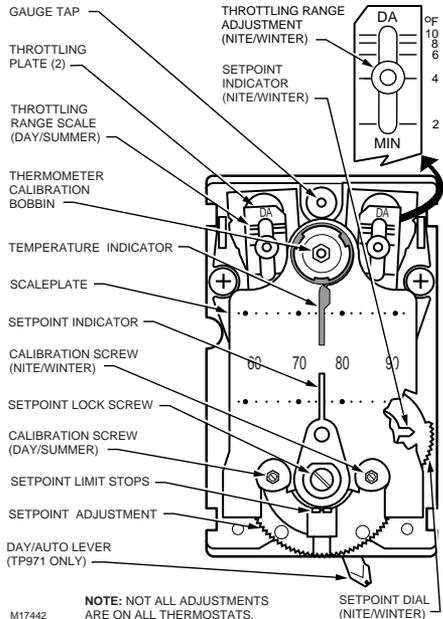

Fig. 8. TP971 and TP972 Controls and Indicators, Front View with Cover Removed.
1. Remove cover and install 0 to 30 psi (0 to 210 kPa) gage (with gage adapter) in gage tap (Fig. 8).
1. Loosen setpoint lockscrew (Fig. 8).
2. Using gage adapter, insert gage into gage tap (see Fig. 8). If results in Steps 3 or 5 are incorrect, go to the Changeover Calibration section.